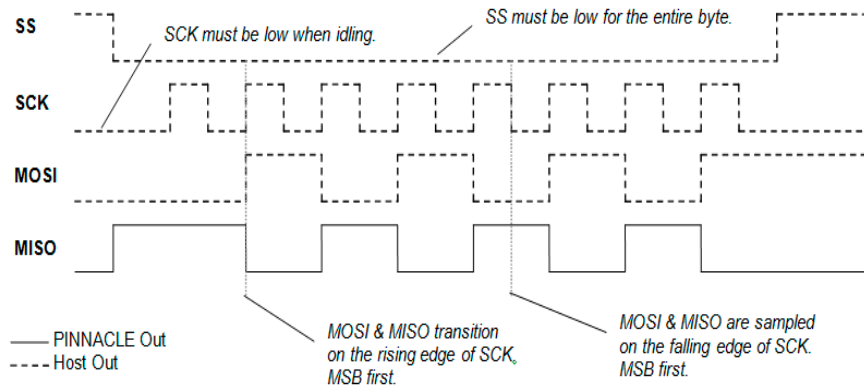
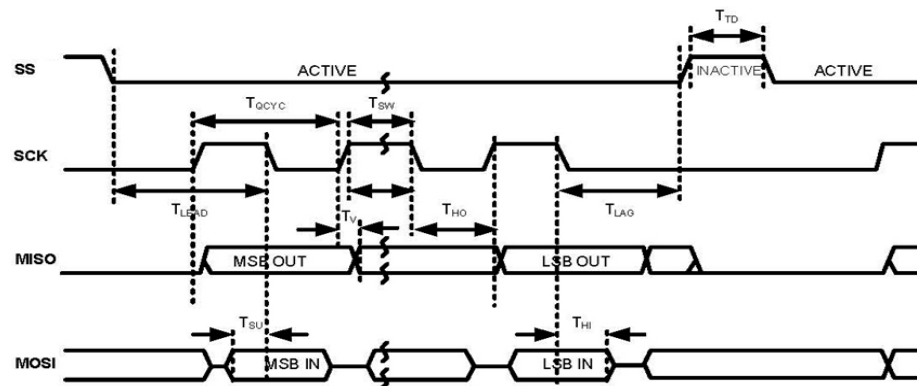

Figure 2. SPI Signals
Figure 3. SPI Timing
Timing for the SPI data lines is shown below (see Figure 2, Figure 3 below, and Table 12 on page 18). The data exchange is started when the master pulls the Slave Select (SS) line low. Due to the full duplex nature of the SPI bus, Pinnacle always returns data at the same time that it is receiving data. The returned byte may be data from the previous command or it may be a filler byte. For both Master and Slave, data is changed on the rising edge of the clock and latched on the falling edge of the clock.